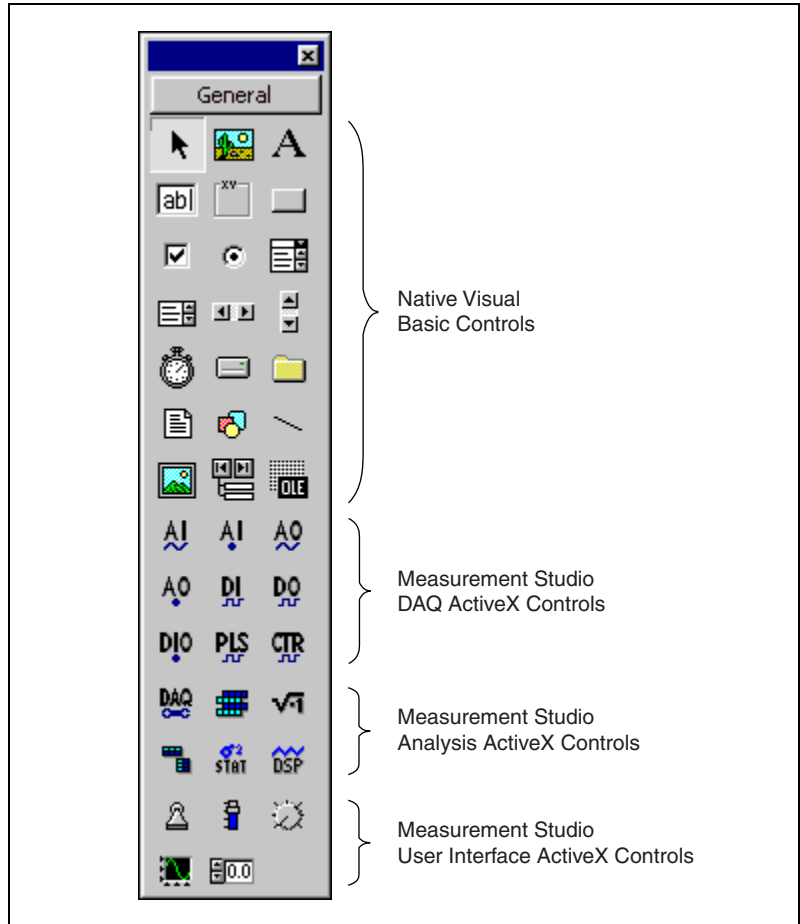

Figure 3-1. Load the Measurement Studio ActiveX Controls into the Toolbox
5. Click **OK**. Visual Basic loads the Measurement Studio controls into the Toolbox, as shown in Figure 3-1.